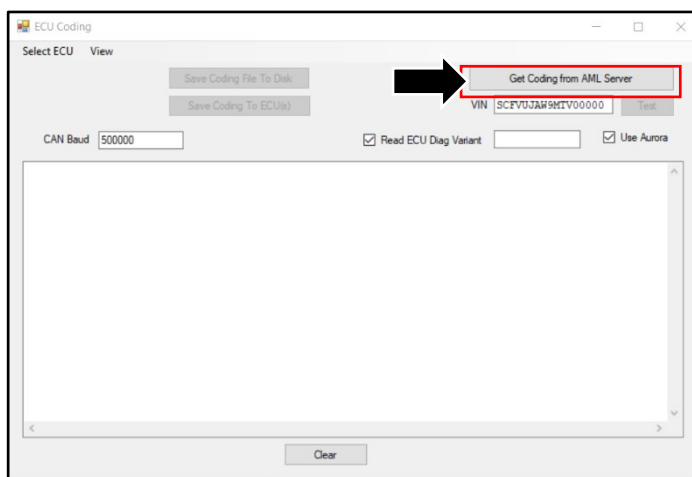

Figure 20
32. Select "Get coding from AML Server" (refer to Figure 20).